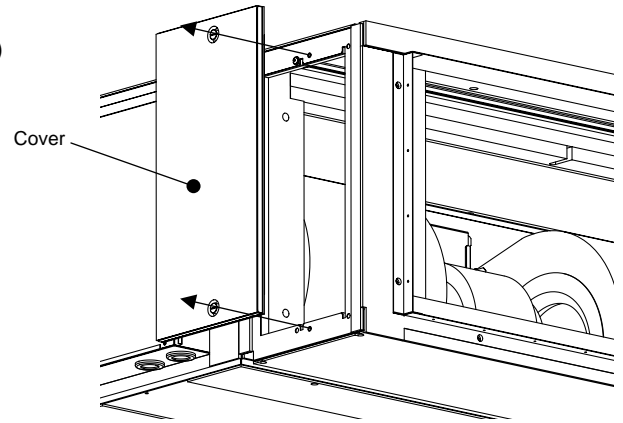

Fig.7
(1) Remove the two screws for the cover on the filter box. (Fig. 7)